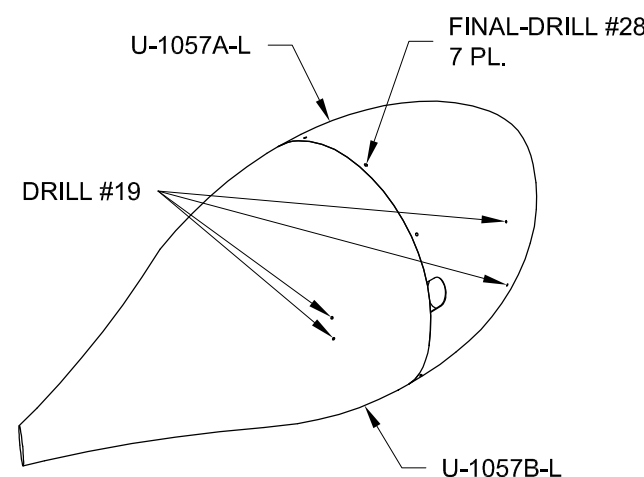

FIGURE 3:
Step 3: Cleco together the U-1057A-L Wheel Fairing Front and U-1057B-L Wheel Fairing Rear. Final-Drill #19 the two fairing to bracket attach holes in the wheel fairing front and wheel fairing rear as shown in Figure 3. Countersink these holes to accept AN507C832R8.